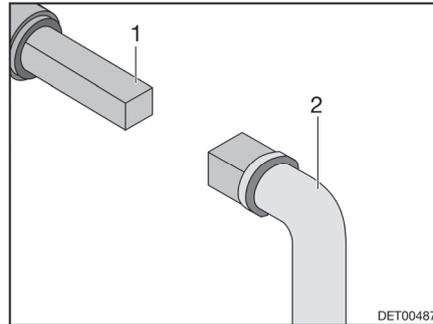

Fig. 111 Operation of the waste water tap
- Place key (Fig. 111,2) onto the square bolt (Fig. 111,1).